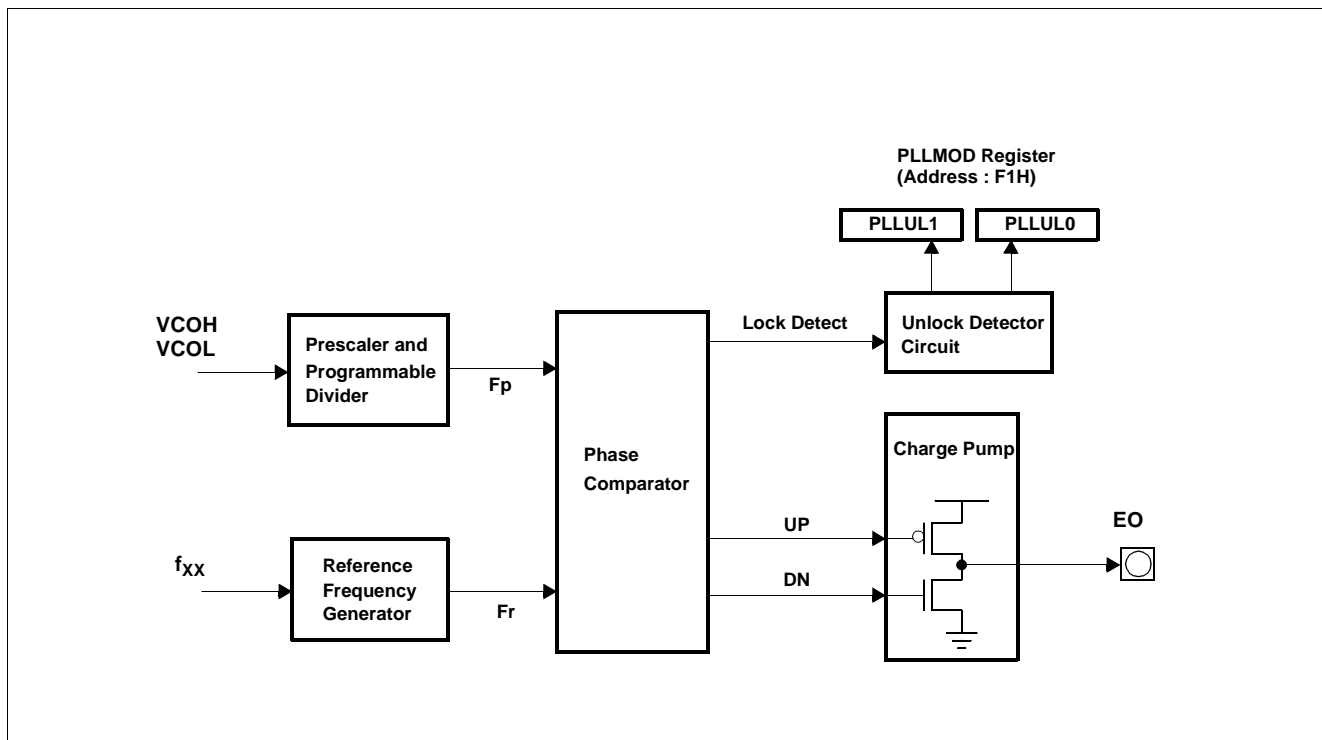

Figure 4-39 Phase Comparator, Charge Pump and Unlock Detector Circuit Configuration
Figure 4-39 shows the phase comparator, charge pump and unlock detector circuit configuration. The phase comparator compares the phase of frequency division output f_N from a programmable divider and that of reference frequency output f_r from a reference frequency generator and outputs up request (UPB) and down request (DWB) signals. The charge pump outputs the output of the phase comparator from error output pin (EO). The unlock detector circuit consisting of unlock flip-flop detects the unlock state of a PLL frequency synthesizer. .
As shown in Figure 4-39, the comparator compares the phase of frequency division output “ f_N ” from a programmable divider and that of reference frequency output f_r from a reference frequency generator and outputs up request (UP) and down request (DN) signal. The UP signal is activated to low if divided frequency f_N is higher than reference frequency f_r . The DN signal is activated to high if the former is lower than the latter.
As shown in Figure 4-39, the charge pump outputs the UP and DN signal from a phase comparator from error output pins.
As shown in Figure 4-39, the unlock detector circuit detects the unlock state of a PLL frequency synthesizer using the up and down request signals from a phase comparator.